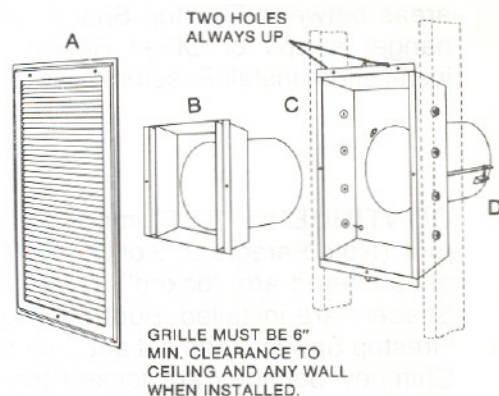

FIG. 10
8. **TO INSTALL OUTLETS** (Fig. 10): Disassemble by removing Grille (A), then Liner (B), and nail Outlet (C) into prepared space in 2 x 4 frame, or anchor with nails in mortar joints if using masonry finished wall. It is important that two-hole end of Outlet is UP. Use four nails of not less than 4d size. **CAUTION:** OUTLET MUST BE NAILED SO THAT FRONT FLANGES WILL BE FLUSH WITH THE FINISHED WALL SURFACE. Example: If using 1/2" drywall over 2 x 4's, nail Outlet so that it protrudes 1/2" from 2 x 4's. (**NOTE:** In some installations, duct parts should be in place BEFORE nailing of outlets, to avoid difficulty in getting duct downward on fireplace collar and inserted into Outlet tube. See next paragraph.)
9. **INSTALL** each duct run from fireplace; duct parts lock by twist. Lead duct into tube at rear of Outlet; tighten tube clamp (D) to secure duct (Fig. 10). Secure first duct part to fireplace by drilling $\frac{1}{8}$ " dia. hole through duct and collar, fastening with one #8 x 1" metal screw supplied (Fig. 11). Complete Outlet nailing, if delayed until now, in accord with Paragraph 8.